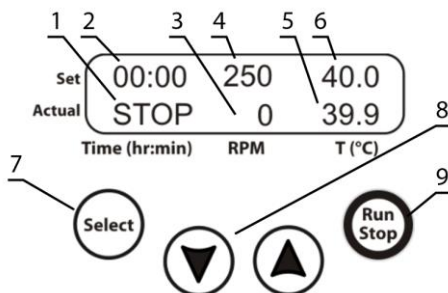

Figure 1. Control panel
- Previously set time (fig. 1/2), set speed of magnetic stirring element (fig. 1/4) and set temperature of water (fig. 1/6) in the upper line (**Set**);
- Time indication (STOP, fig. 1/1), current speed of magnetic stirring element (fig. 1/3) and current temperature of water (fig. 1/5) in the lower line (**Actual**).
- 5.4 **Settings.** Press the **Select** key (fig. 1/7) to choose the parameter to change. Each pressing of the **Select** key consecutively activates the parameters. The active parameter is flashing. Use the ▼ and ▲ keys (fig. 1/4) to set required value. Pressing the key for more than 2 s will increase the increment.
- 5.5 **Temperature setting.** Activate and set the temperature (**T(°C)**, fig. 1/6). Heating starts. The actual temperature value appears in the lower line of the display (fig. 1/5).
5.6 **Magnetic stirring element rotation speed setting.** Activate and set the rotation speed in rpm (**RPM**, fig. 1/4). The actual speed value appears in the lower line of the display (fig. 1/3).
5.7 **Time setting.** Activate and set the desired time in hours and minutes (**Time (hr:min)**, fig. 1/2).
5.8 Press the **Run/Stop** key (fig. 1/9) to start the timer. The elapsed time interval appears in the lower line of the display (fig. 1/1).
**Caution!** Stopping the timer does not stop the heating/temperature maintenance process. The heating can be stopped by reducing the temperature below 25°C using the ▼ key (fig. 1/4) until the **OFF** indication appears on the display.